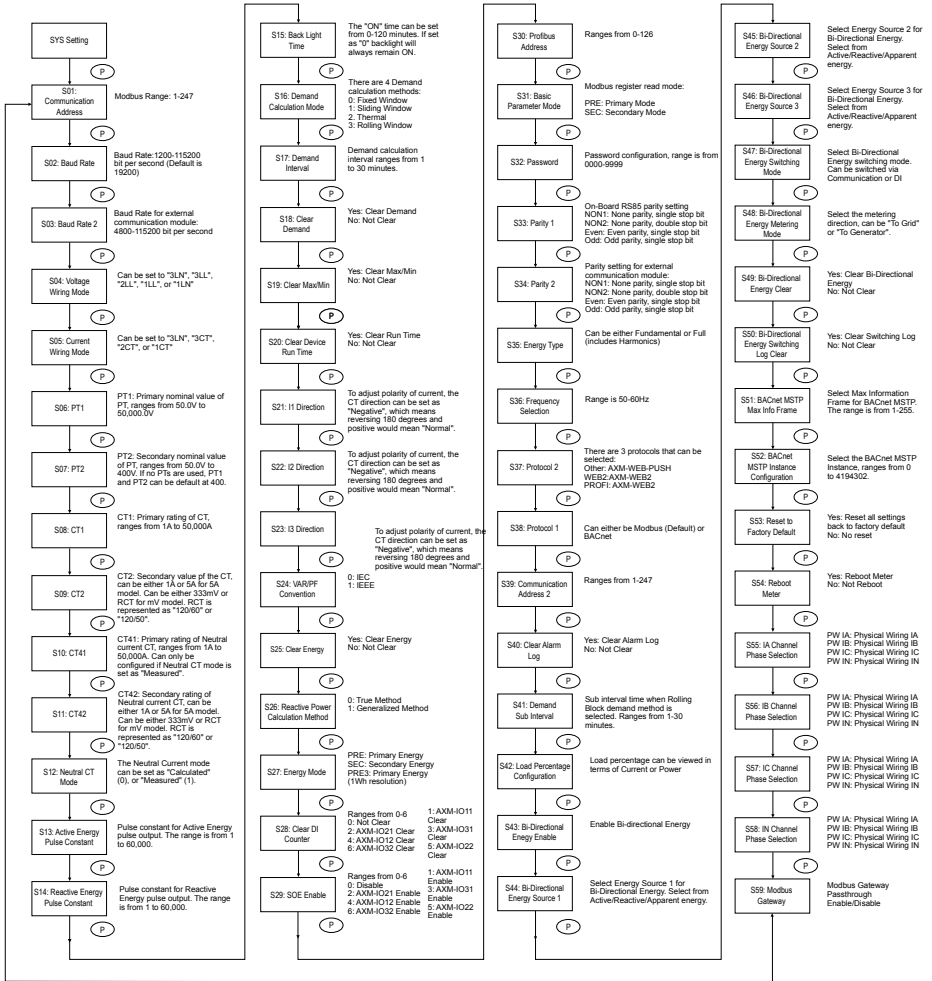

Figure 3-34 System Parameters Page Sequence
**NOTE:** Figures 3-34 to 3-37 will show the rolling sequence using the P key. If you are using the E key for scrolling across the pages, the sequence will be reversed.